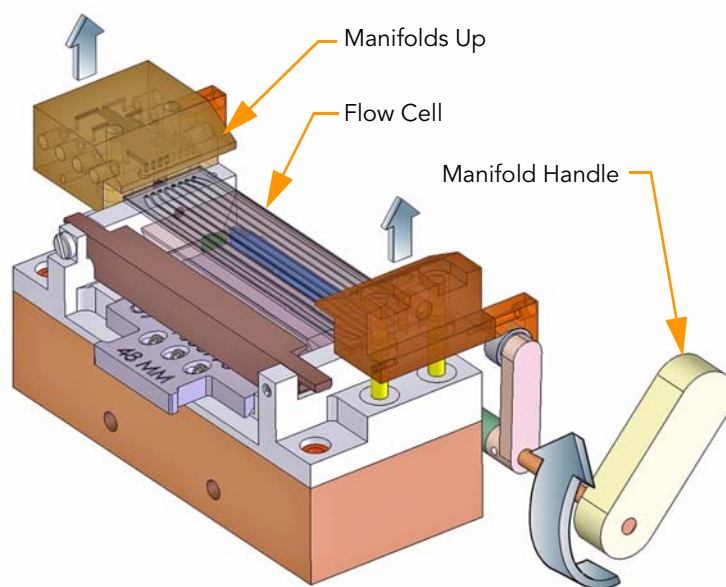

Figure 41 Lift Front and Rear Manifolds
6. Turn the manifold handle clockwise to lift the manifolds (Figure 41).